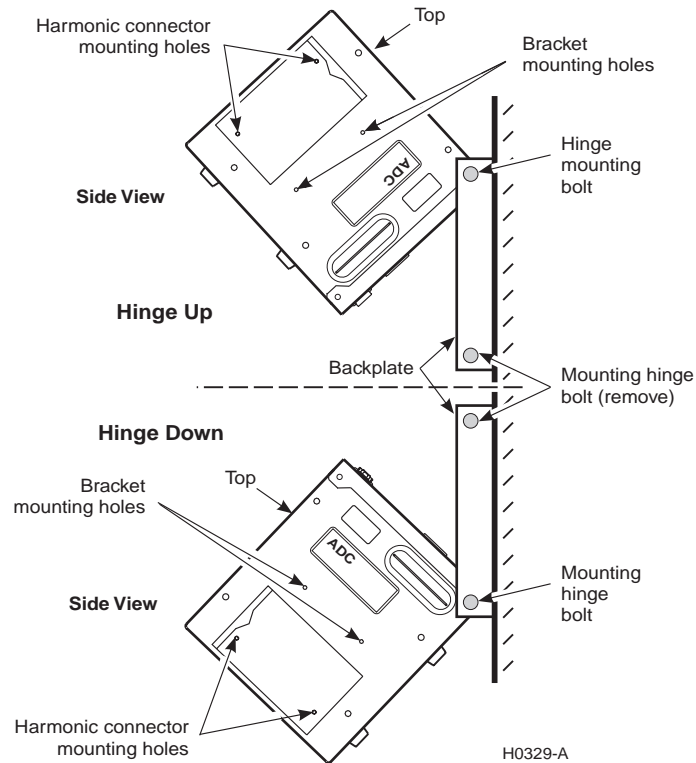

Figure 3. Wall Mounting and Hinging View
- 4 Use the four locking bolts loosened in Step 1 as hinge mounting bolts to reattach the backplate to the main chassis side panels. (See Figure 3 on page 5.)
When the main chassis is attached to the backplate, it can be rotated up or down by removing the two upper or lower mounting bolts and slightly loosening the two remaining mounting bolts to allow them to act as hinges. This provides access to the enclosure's backplane and other internal areas. See Figure 3 on page 5 for hinging details.
- 2 Attach the rack mounting brackets to the bracket mounting holes (see Figure 3) on each side panel with the four bracket attaching screws and locking nuts.